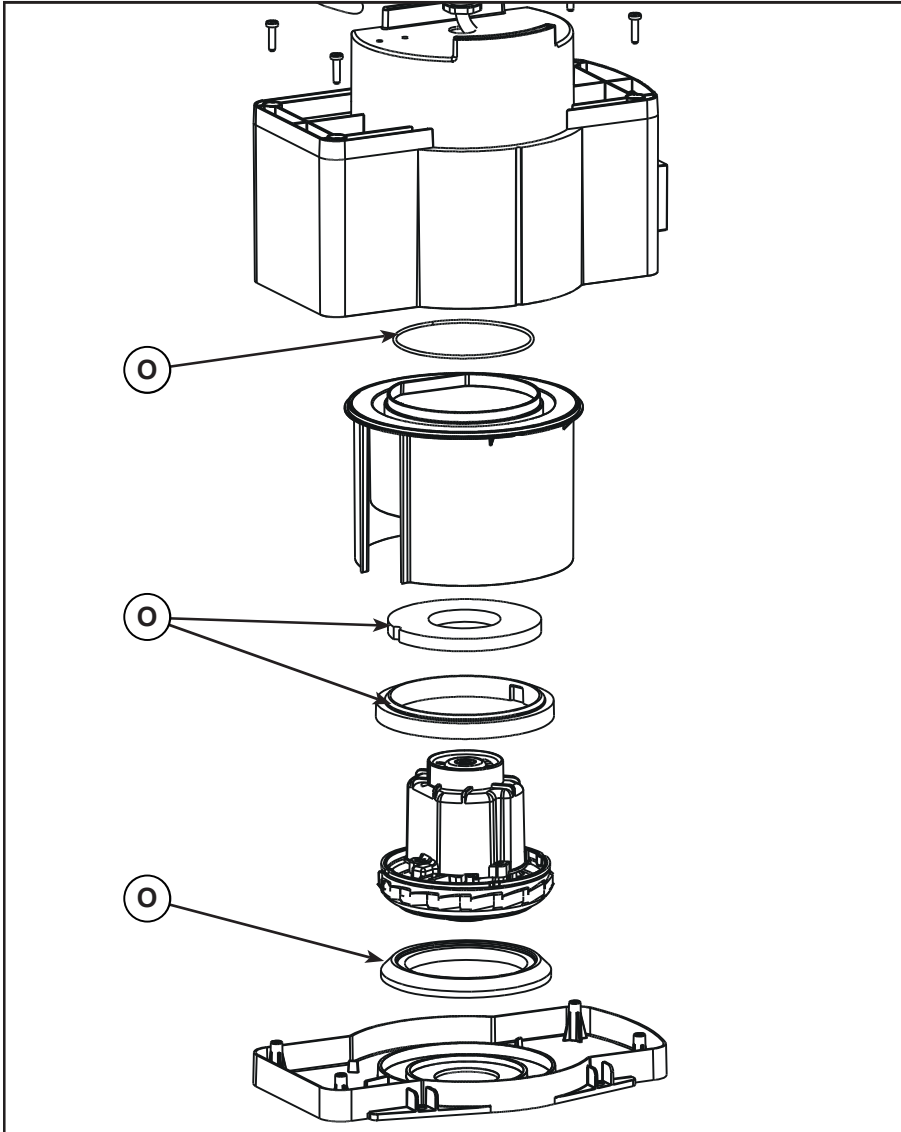

Figure 11:
14. Clean and check the condition of all seals (O) (Figure 11); replace them if necessary.